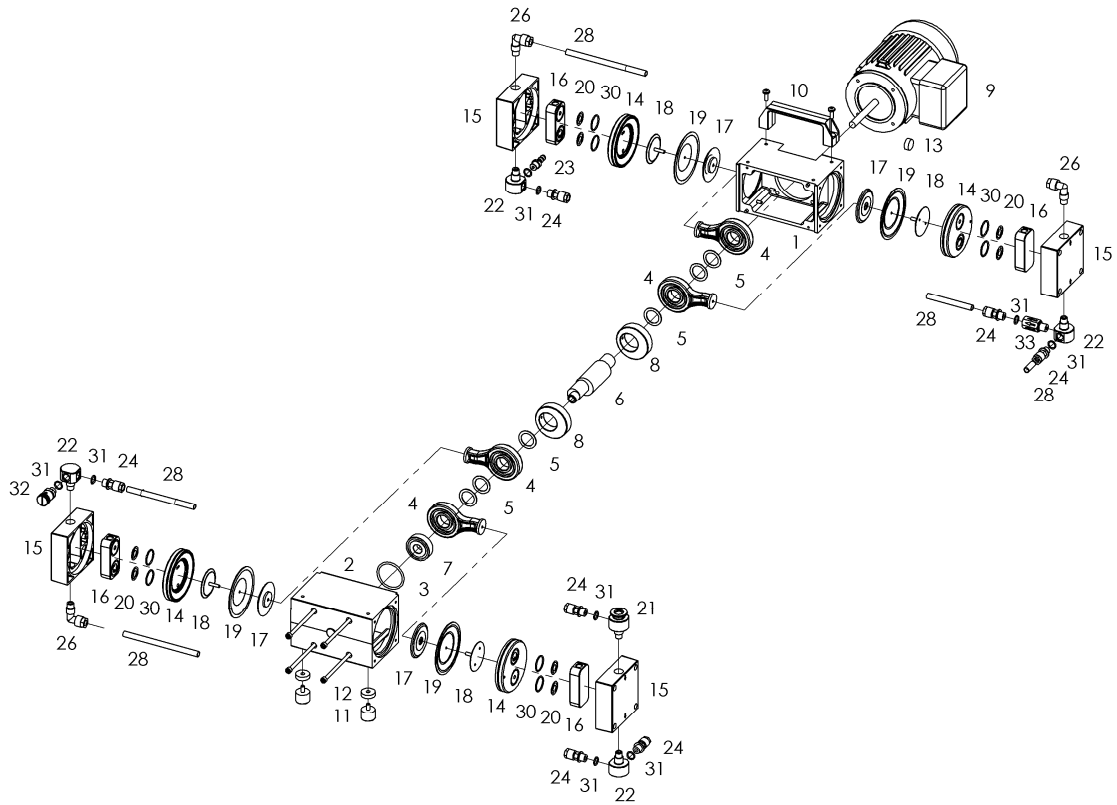

Fig. 5 Exploded view (2052)
3. Bring the connecting rod (see fig. 5) and the diaphragm **(7)** into the central position.